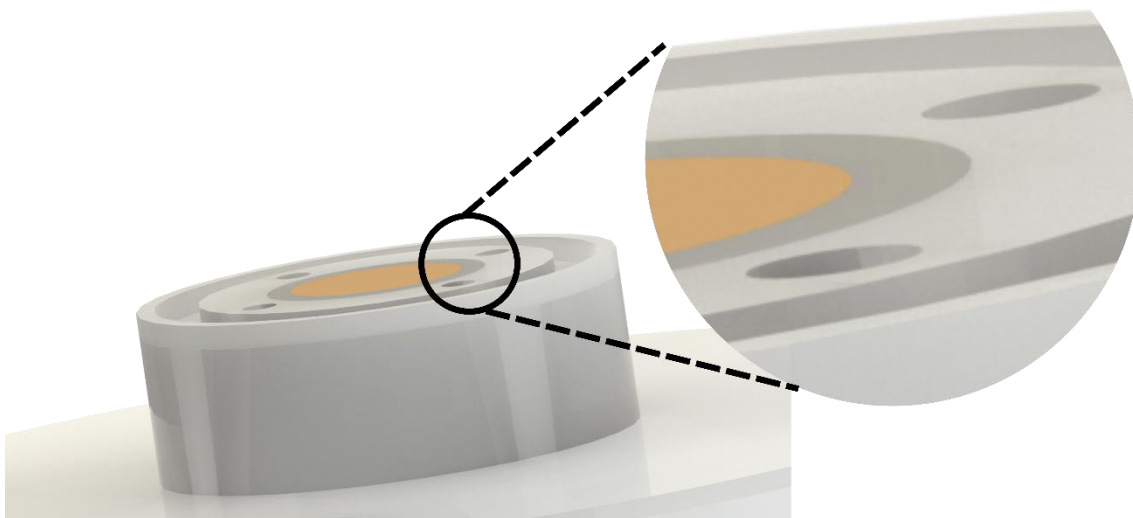

Figure 31: Make sure that the bottom surface of the stagnant thin-layer EC cell, the active surface of the working electrode and the U-cup is aligned and flush.
10. Make sure that the surface of the electrode and the edge of the U-cup is flush with the bottom surface of the stagnant thin-layer EC cell (Figure 31). We recommend no more than $\pm 10 \mu\text{m}$ difference in height. If the electrode or U-cup is sticking out, there is a risk of breaking the chip. If the electrode surface is indented with respect to the EC cell surface, the reaction volume is larger, thus lowering the time resolution.